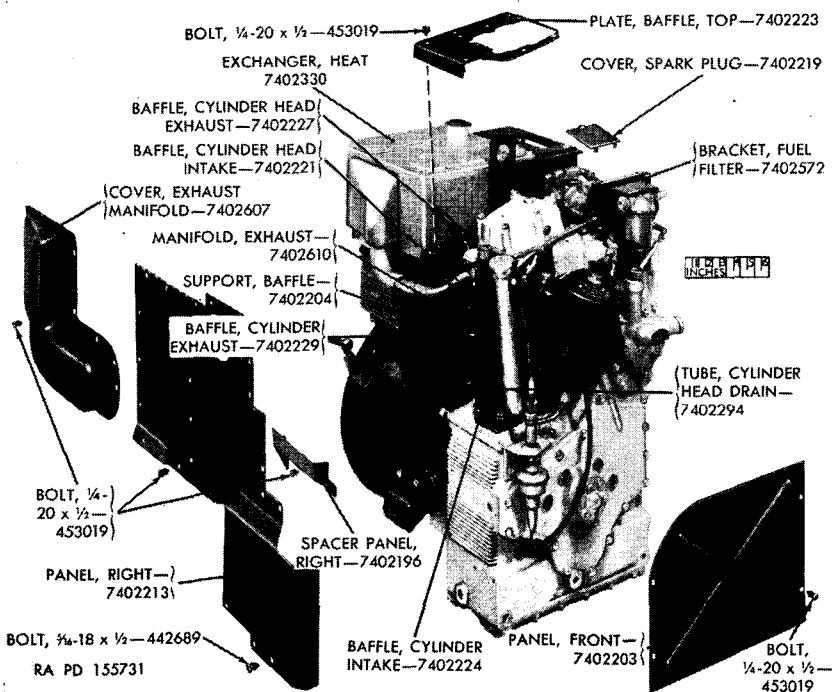

Figure 15. Panels—right-front exploded view.
a. **REMOVE CARBURETOR GUARD** (figs. 2 and 16). Remove four $\frac{1}{4}$ -20 x $\frac{1}{2}$ bolts and lock washers securing carburetor guard to baffle support and fuel filter bracket (fig. 15).
c. REMOVE FRONT PANEL (fig. 15). Remove four $\frac{1}{4}$ -20 x $\frac{1}{2}$ bolts and lock washers securing front panel to lower-left and right panels.
a. Remove four $\frac{1}{4}$ -20 x $\frac{6}{16}$ bolts attaching heat exchanger to baffle support and rear shroud panel (figs. 2, 15, and 16), and remove two $\frac{1}{4}$ -20 x $\frac{1}{2}$ bolts and lock washers securing heat exchanger to right panel. Remove heat exchanger from engine. The exhaust manifold will slide from the exhaust tube (fig. 15).
b. Remove exhaust manifold (fig. 15).
- c. Remove three $\frac{1}{4}$ -20 x $\frac{1}{2}$ bolts and lock washers and three $\frac{3}{8}$ -24 x $\frac{5}{8}$ bolts and lock washers which secure engine-baffle support to generator frame (fig. 15).
- c.* Remove cylinder-head intake and exhaust baffles (figs. 15 and 107).
- d.* Disconnect cylinder-head drain tube at cylinder head and crankcase. Remove drain tube (figs. 15 and 106).